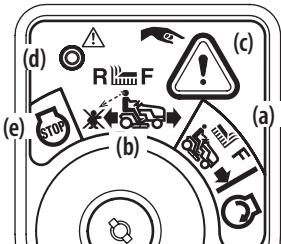

Figure 21
- Turn the key from the NORMAL MOWING  (a) position to the REVERSE CAUTION MODE  (b) position of the ignition module. See Figure 21.
- Press the REVERSE PUSH BUTTON  (c) at the top, right corner of the ignition module. The red indicator light (d) at the top, left corner of the ignition module will be ON while activated. See Figure 21.
- Always look down and behind before and while backing to make sure no children are around. After resuming forward motion, return key to the NORMAL MOWING  (a) position. See Figure 21.
- The REVERSE CAUTION MODE (b)  will remain activated until (see Figure 21):